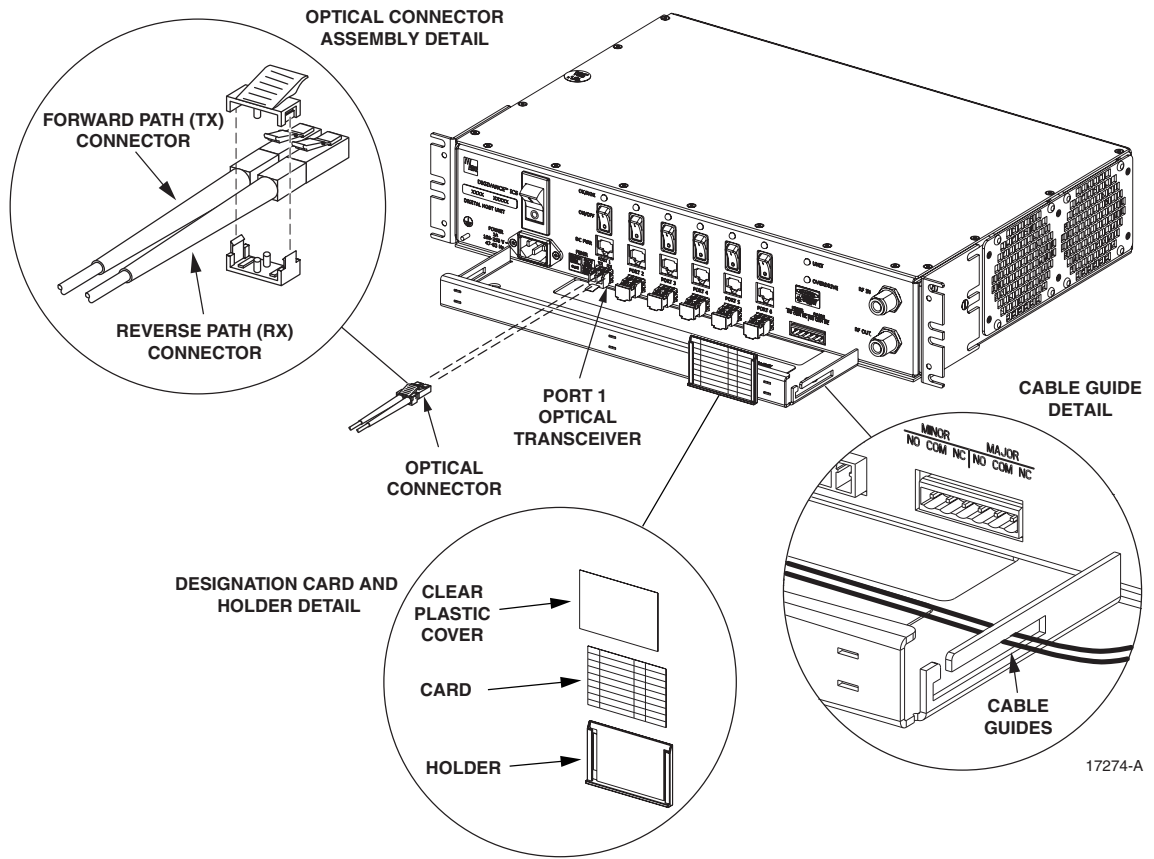

Figure 19. Ports 1-6 Fiber Cable Connections
3. Terminate each optical fiber with a field-installable LC type fiber optic connector as shown in Figure 19. Follow the instructions provided by the connector manufacturer for installing the connector.
6. Use the plastic joiner provided with the LC connectors to join the DHU Port 1 forward and reverse path connectors together (see Figure 19). Make sure the **forward path** and **reverse path** connectors are oriented as shown.
8. Clean each connector (follow connector supplier's recommendations) and then insert the optical fiber connector pair into DHU optical port 1 (see Figure 19).
9. Place the optical fibers within the cable guides provided on the cable management tray (see Figure 19) and then dress and secure the fibers at the DHU per standard industry practice.
11. Use the designation card provided (see Figure 19) to indicate the location and name of the DRU or DEU that is connected to each optical fiber pair. The designation card holder may be attached to any convenient flat surface such as the DHU cable management tray